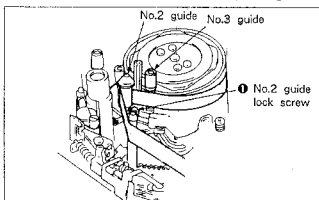

Fig. 7-67.
- 1) Play back the alignment tape (WRS-1C) for tracking and loosen No.2 guide lock screw ①, and rotate No.2 and No.3 guides counterclockwise to free tape running on the entrance side (See Fig. 7-67.)
- 7) Tighten No.2 guide lock screw ①. (See Fig. 7-67.)